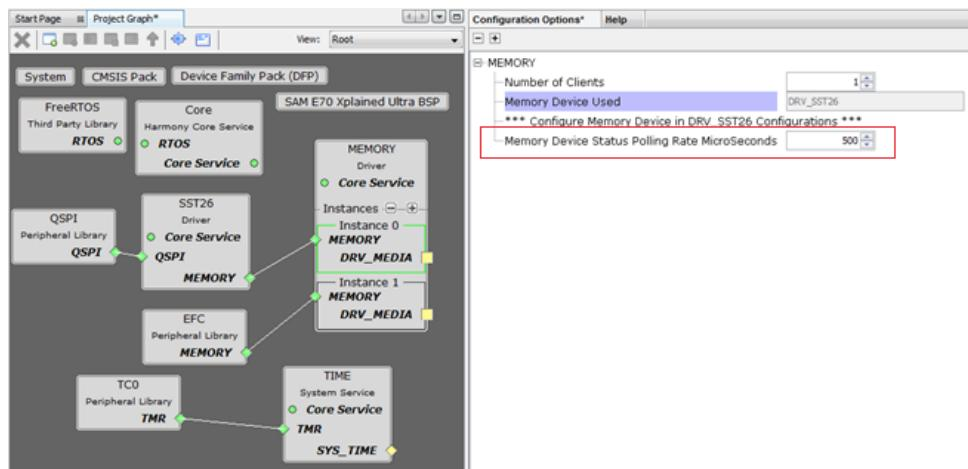

Figure-3 Synchronous Mode with RTOS and without File System
2. **Option is Displayed only in Synchronous mode and when Memory Device Used does not support interrupt mode. Refer Figure-3**